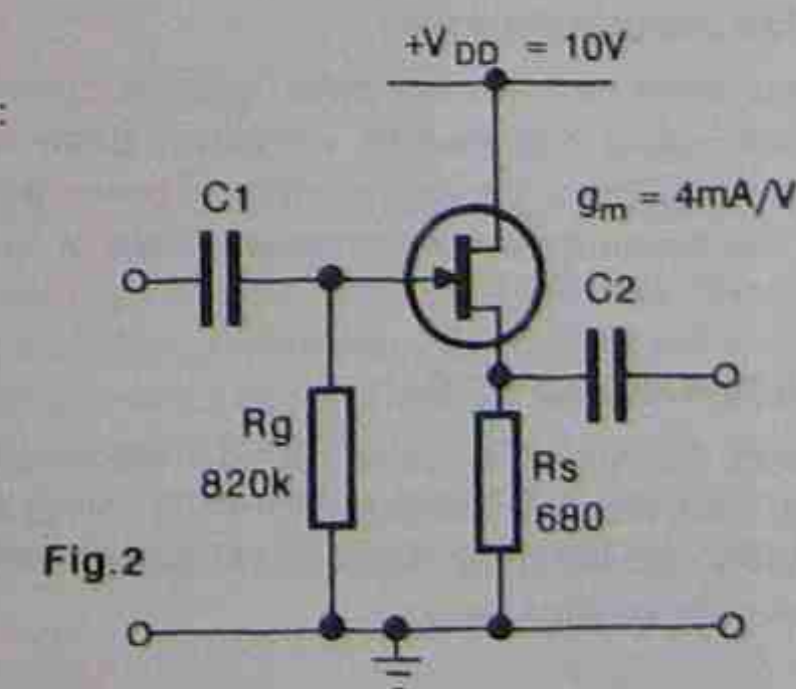

Fig.2
3. For the circuit of Fig.2, calculate the approximate: